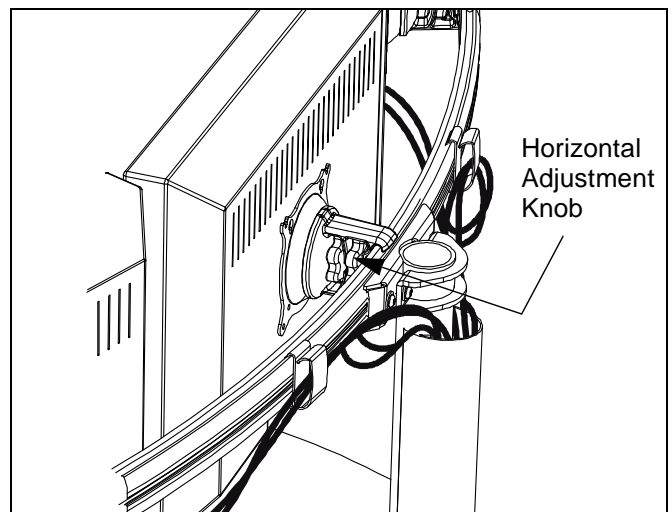

Figure 14: Display Horizontal Adjustment
- Loosen Centris bracket rear adjustment knob (see Figure 14).